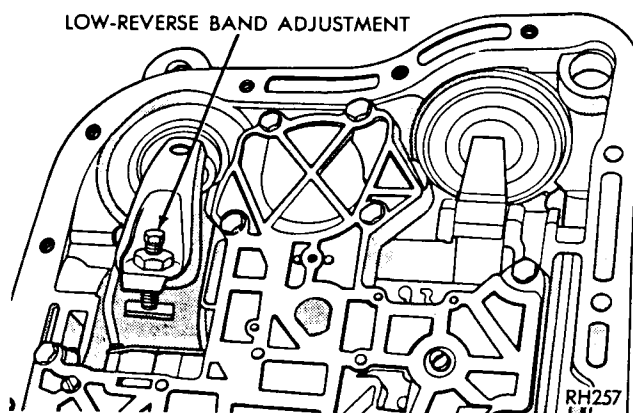

Fig. 5—Low-Reverse Band Adjustment
(1) Raise vehicle, drain transmission fluid from loosened oil pan and remove oil pan.
(2) Loosen adjusting screw lock nut and back off lock nut approximately five turns (Fig. 5). Test adjusting screw for free turning in the lever.
(3) Using wrench, Tool C-3380-A, tighten band adjusting screw to 72 in. lbs. (8 N·m).
(4) Back off adjusting screw the number of turns listed in "Specifications". Hold adjusting screw in this position and tighten lock nut to 25 ft. lbs. (34 N·m).
(5) Reinstall oil pan using a new gasket. Tighten oil pan bolts to 150 in. lbs. (17 N·m).
(6) Fill transmission with "MOPAR ATF PLUS" (Automatic Transmission Fluid) type 7176.